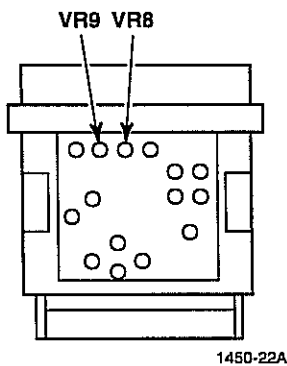

Figure 3-17.
- b. Adjust VR8 (Figure 3-17) for $1.50 \text{ VDC} \pm 0.05 \text{ VDC}$.
- b. Adjust VR9 (Figure 3-17) for $1.50 \text{ VDC} \pm 0.05 \text{ VDC}$.